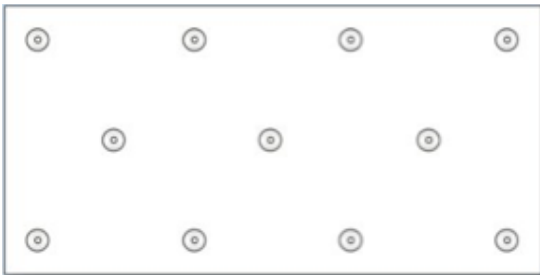
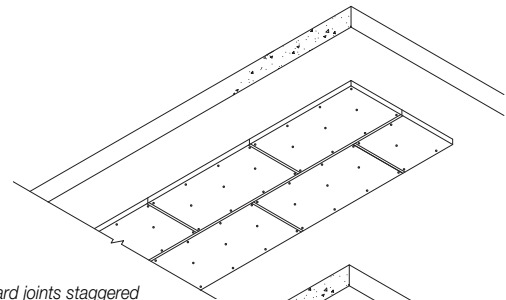
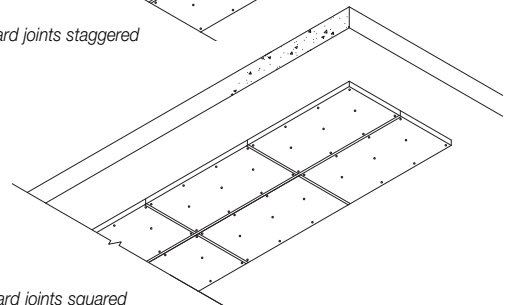

Figure 3 Fastener pattern (11 No. per board)
Figure 5 Board joints staggered
Figure 6 Board joints squared
2. Board joints can be either staggered (see Figure 5) or squared (see Figure 6) and taped with a minimum 72 mm wide appropriate aluminium foil tape. 4 No. fasteners along each length - no less than 50 mm - no more than 150 mm from edge of board, 3 No. fasteners along the middle (offset from edge positions as per diagram Figure 3).